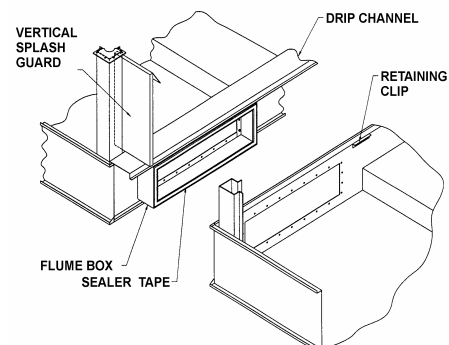

Figure 3 - Equalizer Flume Connection
2. Clean the flanges on the equalizer flume on the end to be field connected. Apply a layer of sealer tape on the flange centered between the hole centers and the outside edge. Remove paper backing strip from the sealer tape. (See Figure 3.)
9. Place the vertical splash guard in the bend of the vertical supports. Attach the vertical splash guard using 8 mm tappers. For stainless steel construction, attach the vertical splash guard using 6 mm stainless steel nuts and bolts. (See Figure 3.)